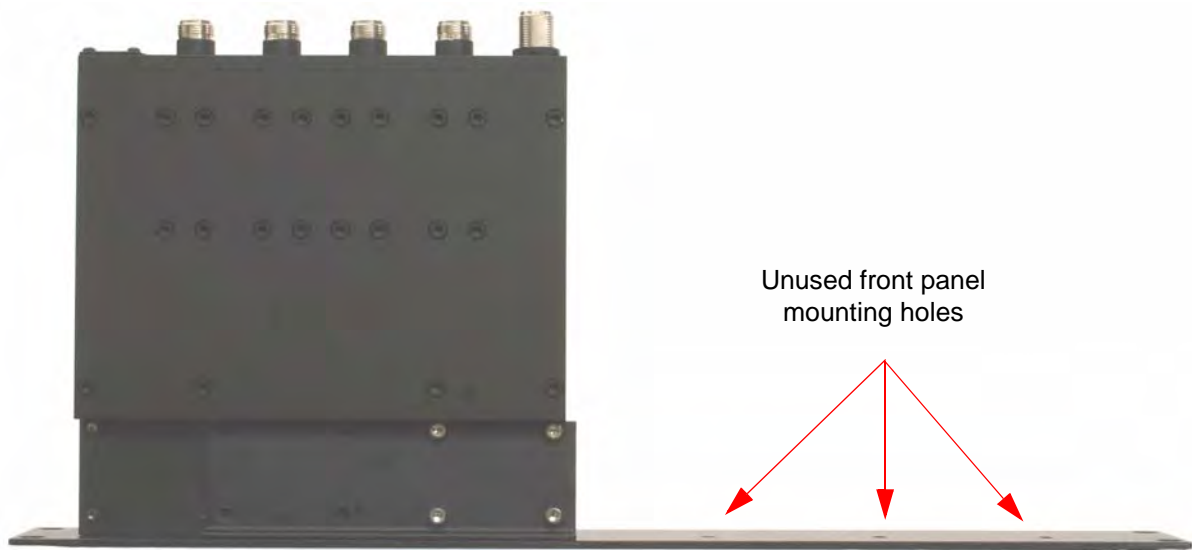

Figure A2: Stabilizer bracket attached to a single 4 Channel Control Station.
- 2) Disconnect the stabilizer bracket from the bottom of the existing 4 Channel Combiner assembly. This bracket is held in place with four (4) screws. Refer to **Figure A2**.
- 3) Disconnect the three (3) hex screws and nuts from the unused front panel mounting holes. Discard the nuts as they will not be reused.